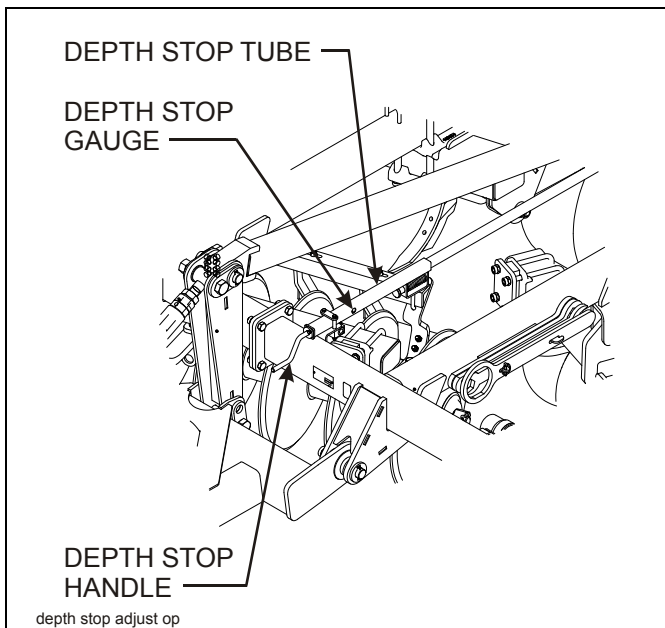

Figure 4-12: Depth Stop Adjustment (Manual)
1. Adjust the depth stop by turning the handle in (clockwise) to increase operating depth (**See Figure 4-12.**) Turn the handle out (counter-clockwise) to decrease operating depth.